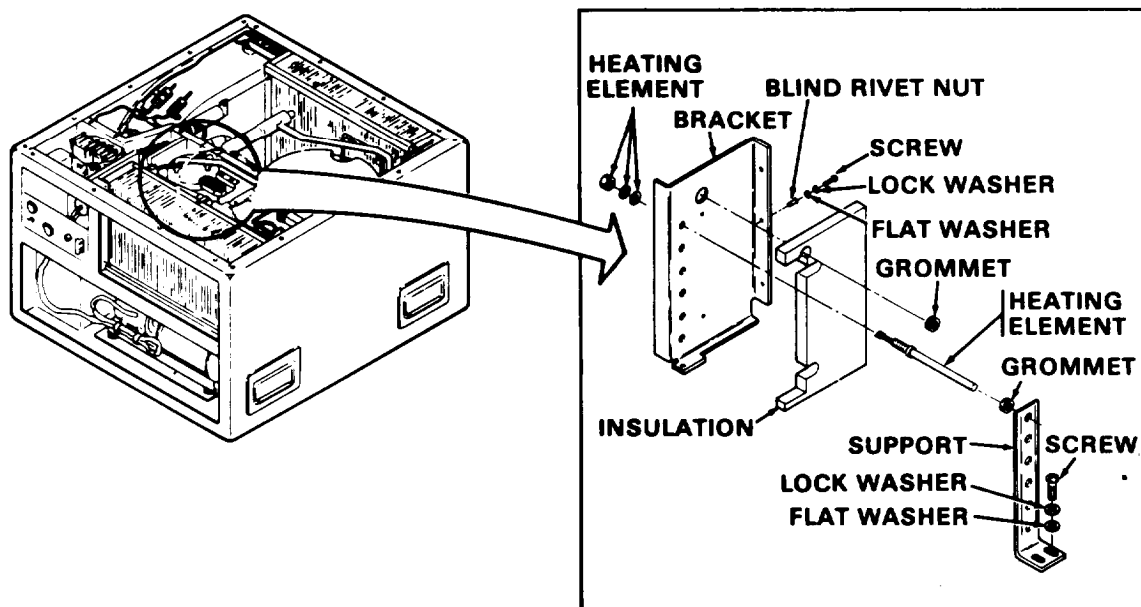

Figure 4-25. Heating Elements and Heater Cut-out Switch
- (1) Refer to paragraph 4-18, remove top front cover.
- (2) Refer to paragraph 4-29 and remove the control module and junction box.
- (3) Refer to figure 4-25 and remove the heating elements or the heater cut-out switch.
- (1) Refer to figures 4-25 and FO-1 and install the heating element or heater cut-out switch.
- (2) Refer to paragraph 4-29 and install the junction box and control module.
- (3) Refer to paragraph 4-18, install the top front cover.